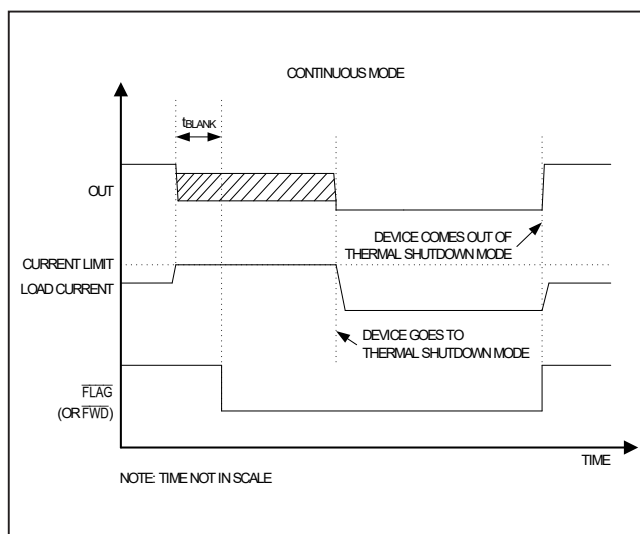
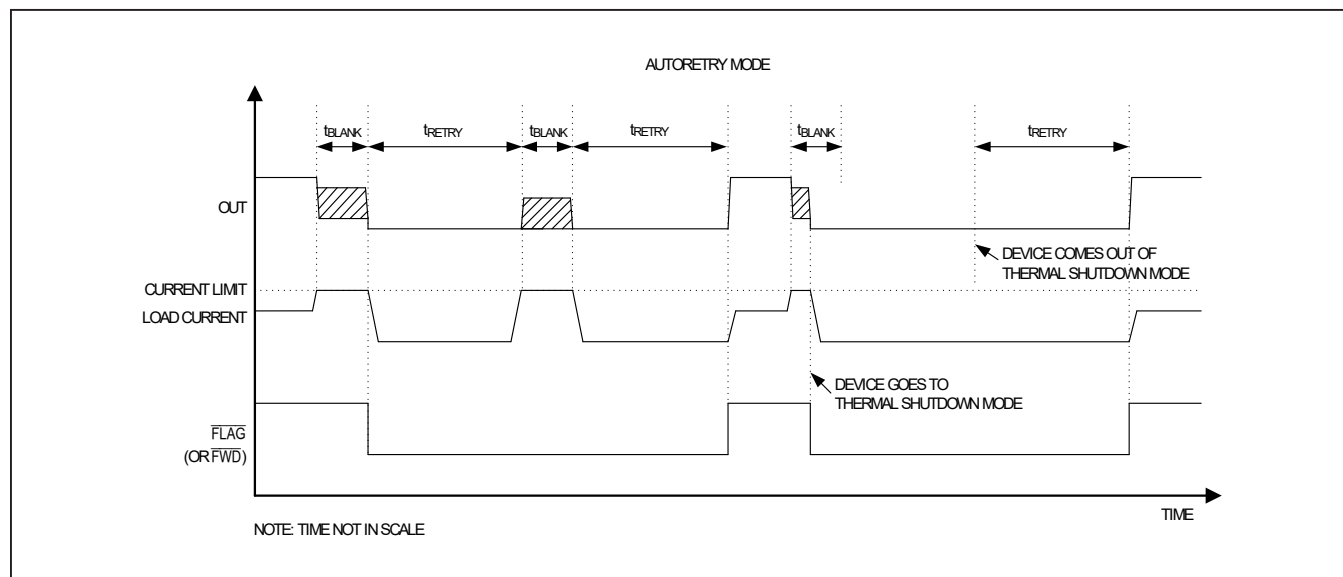
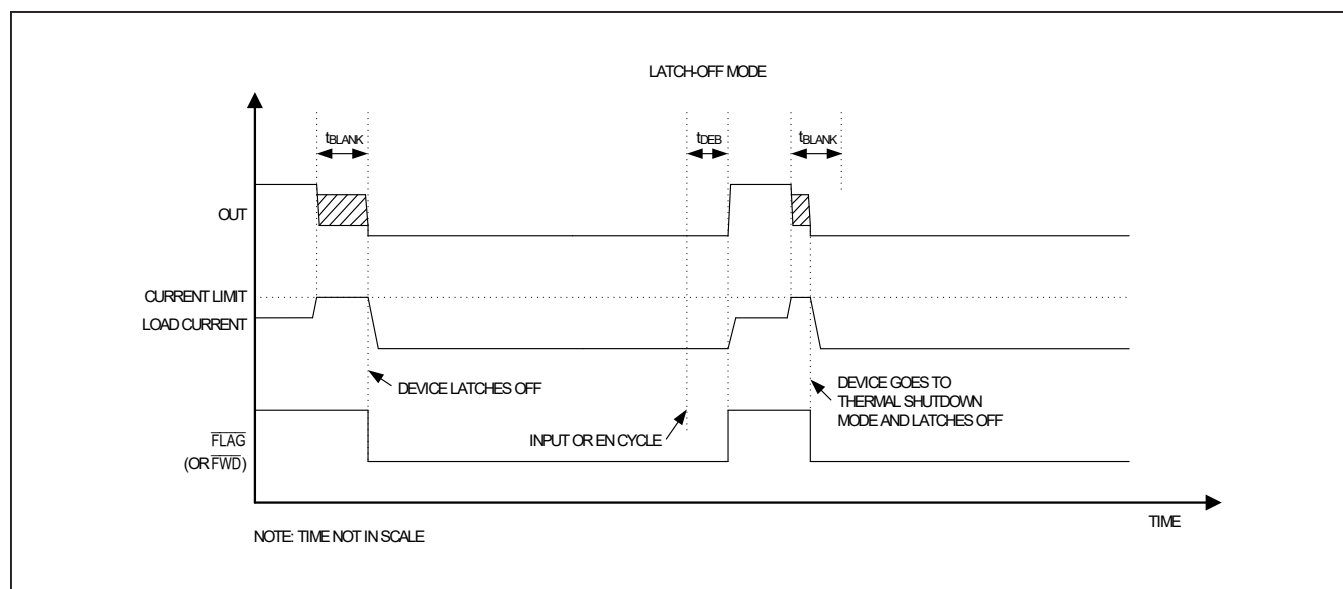

Figure 4. Continuous Fault-Timing Diagram
Figure 3. Autoretry Fault-Timing Diagram
Figure 5. Latch-Off Fault-Timing Diagram
With a 40ms (typ)  $t_{\text{BLANK}}$  and 600ms (typ)  $t_{\text{RETRY}}$ , the duty cycle is 6.25%, resulting in a 93.75% power reduction when compared to the switch being on the entire time. Figure 3 depicts typical behavior in the autoretry current-limit mode.
In continuous current-limit mode, when current through the device reaches the current limit threshold, the device limits output current to the programmed current limit. The  $\overline{\text{FLAG}}$  (or  $\overline{\text{FWD}}$ ) pin asserts if overcurrent condition is present for  $t_{\text{BLANK}}$  and deasserts when the overload condition is removed. Figure 4 depicts typical behavior in the continuous current-limit mode.
In latch-off current-limit mode, when current through the device reaches the current-limit threshold, the  $t_{\text{BLANK}}$  timer begins counting. The  $\overline{\text{FLAG}}$  (or  $\overline{\text{FWD}}$ ) pin asserts if an overcurrent condition is present for  $t_{\text{BLANK}}$ . The timer resets when the overcurrent condition disappears before  $t_{\text{BLANK}}$  has elapsed. The switch turns off and stays off if the overcurrent condition continues beyond  $t_{\text{BLANK}}$ . To reset the switch, either toggle the control logic (EN) or cycle the input voltage. Figure 5 depicts typical behavior in latch-off current-limit mode.
The thermal limit behaves similarly to the current limit. In autoretry mode, the thermal limit works with the autoretry timer. When the junction temperature falls below the falling thermal-shutdown threshold, devices turn on after the retry time. In latch-off mode, the devices latch off until power or EN is cycled. In continuous mode, the devices only disable while the temperature is over the limit. There is no blanking time for thermal protection. Figure 3, Figure 4, and Figure 5 depict typical behavior under different current limit modes.